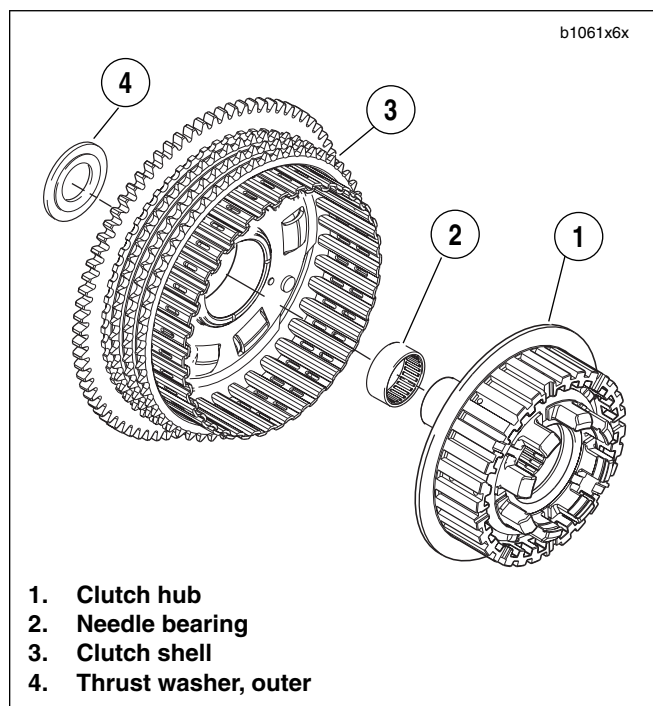
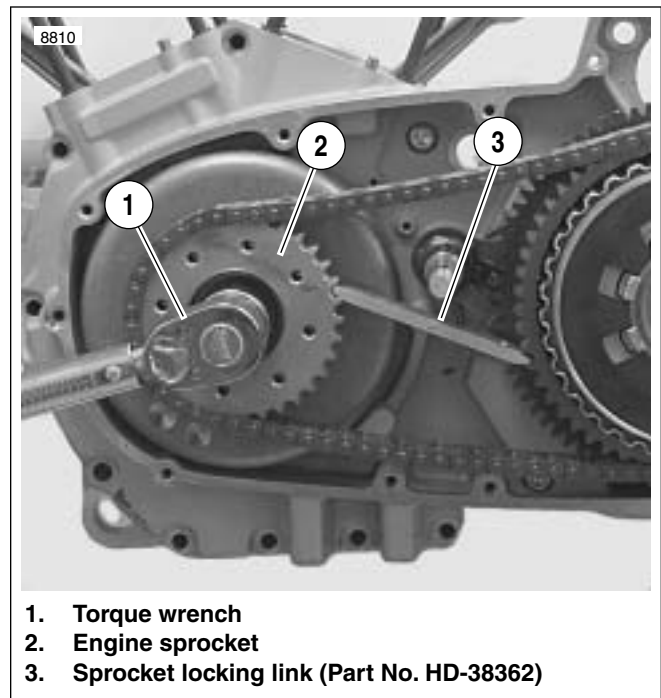

Figure 6-33. Clutch Hub and Shell Assembly
Figure 6-34. Sprocket Locking Link Tool (Part No. HD-38362) for XB9R models and (Part No. HD-46283) for XB12R models.
1. See Figure 6-33. Assemble clutch hub (1) and shell (3) by sliding inboard end of clutch hub into shell bearing(2) by hand. No tools are required.
3. Verify that outer thrust washer (4) is installed on transmission shaft.
5. See Figure 6-34. Install the engine sprocket nut.